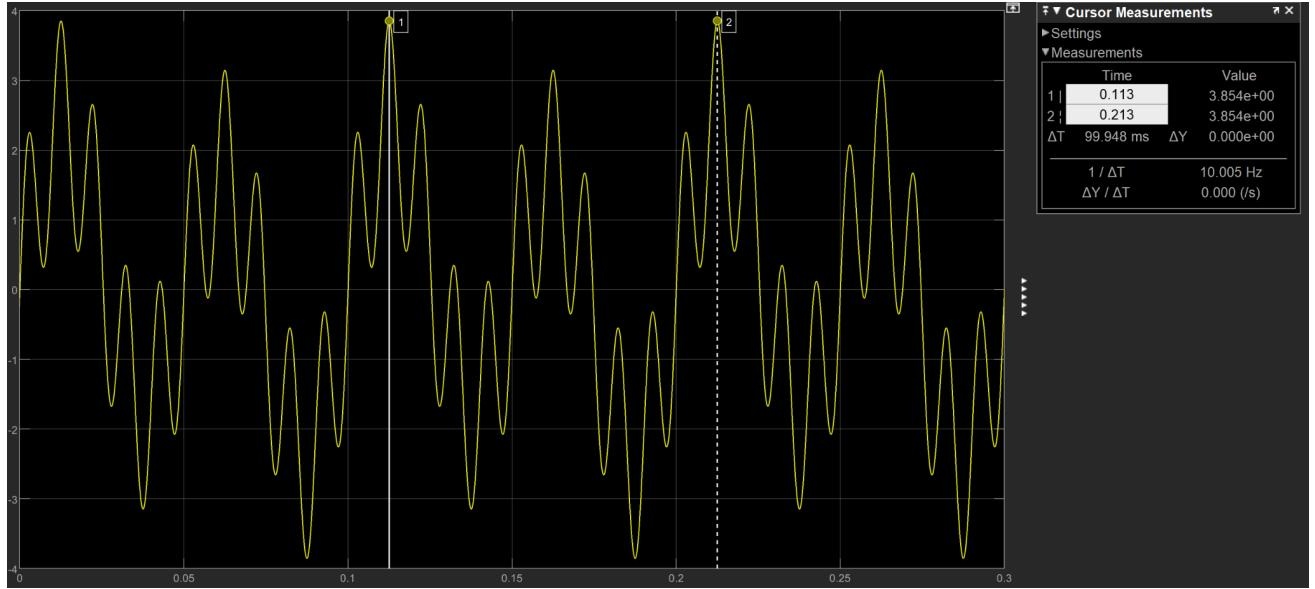
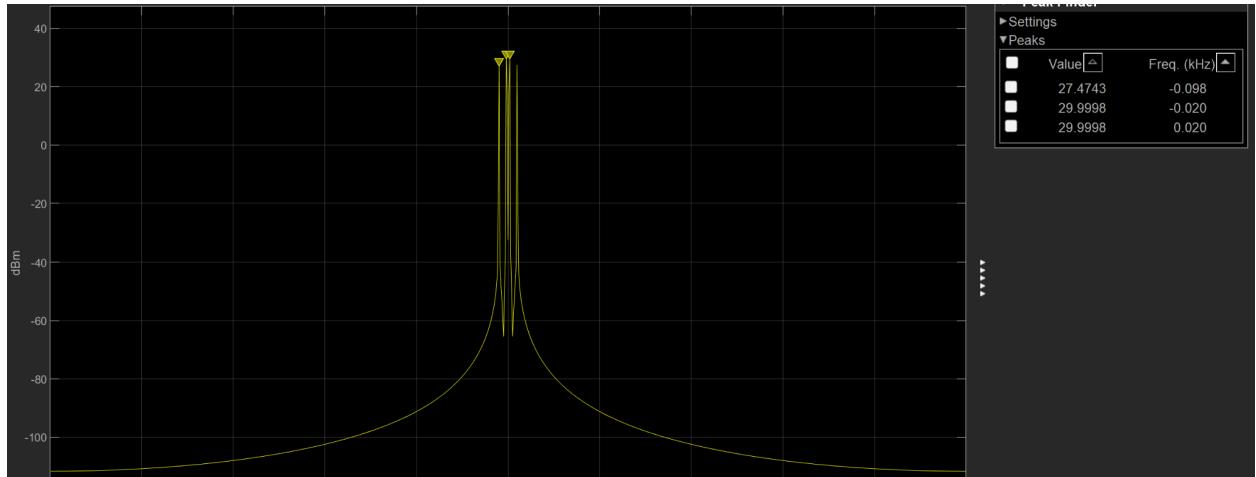

Fig. 9: Output of the sum of three sine-wave on the Scope
Fig. 10: Output of the sum of three sine-wave on the Spectrum
- 5) We then repeated this step, but this time with a sum of three ample based sine waves, and each has the sample time set to $1\text{e-}4$. The first sine wave is set up with an amplitude of 0.5 and samples per period of 500; the second one is set up with an amplitude of 2 and samples per period of 1000; the third one is set up with an amplitude of 1.5 and samples per period of 100. We observed the outputs on the Scope and the Spectrum (Fig. 9 and Fig. 10)